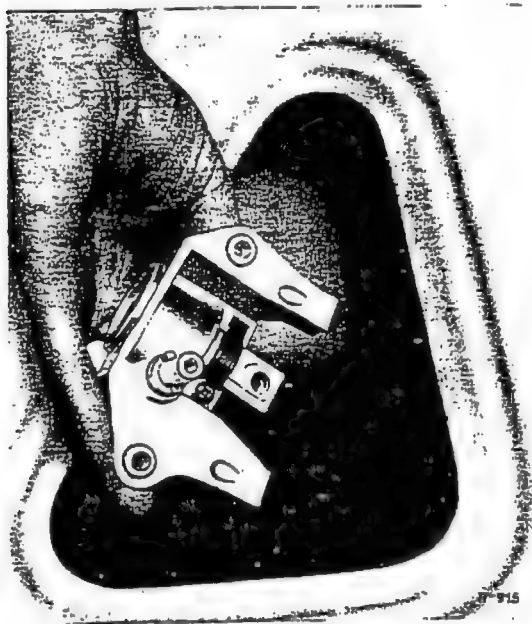

Fig. 72-13/3
4. Take out the mounting plate (5) (see Fig. 72-13/1) for the grip handle and remove the ventilator lock through the opening in the door inner panel (Fig. 72-13/3).